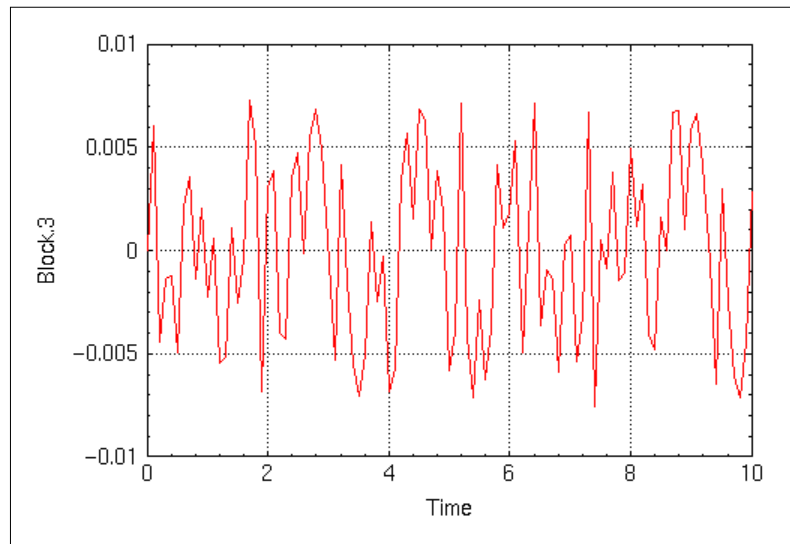

FIGURE 15-11 Plot of Comparison with Radix Position 6
6. See Figure 15-11 on page 15-19 for the way the plot should look. From the plot, it appears that, at this Radix Position, the fixed and floating values of the input sine wave will never vary by more than about ± 0.008 . This agrees with the predicted range of differences, $\pm 1/2$ the resolution, which is equal to $2^{-6} = 0.015625$.